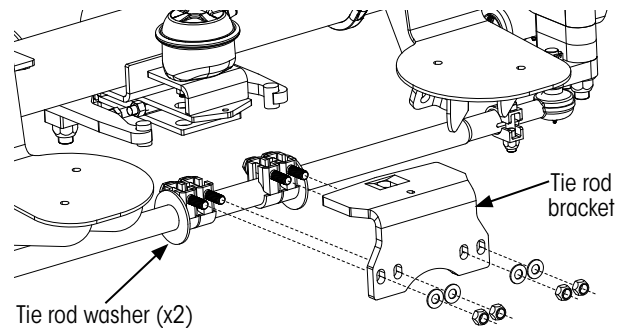

Figure 9: Lock-straight tie rod bracket
1. Remove the four tie rod bracket locking clamp bolt, nut and washers (Figure 9). Save for reassembly.